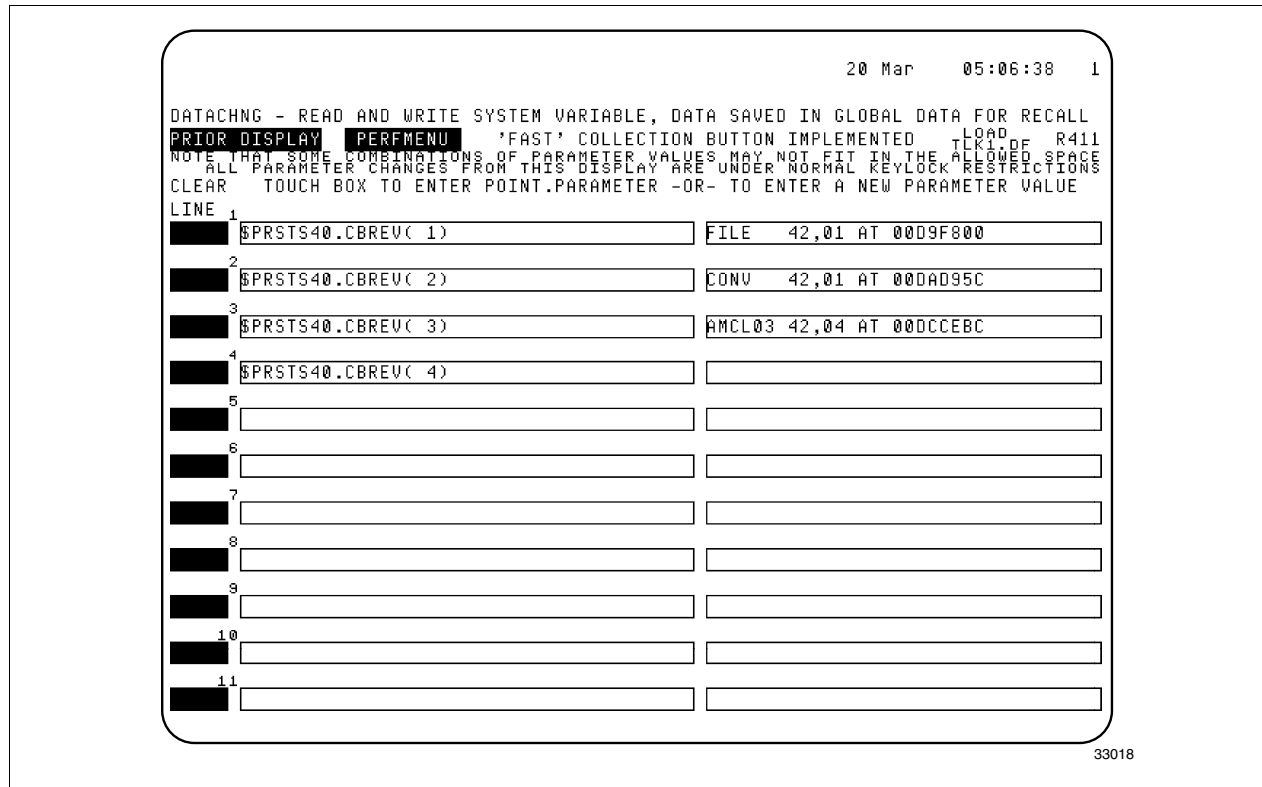

Figure 4 - DATAHNG Display
- the CBREV display on PERFMENU (see Figure 4)—R410 and later